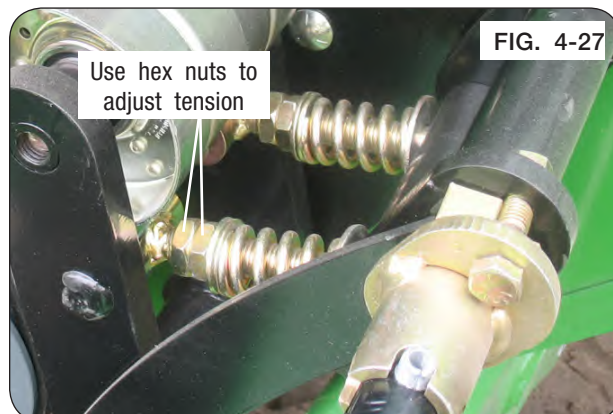

FIG. 4-27
5. Belt tension is adjusted with hex nuts below the spring. All belt tension **MUST** be released from linkage. Loosen outer hex nut and adjust inner nut to establish a $3 \frac{1}{16}$ " pre-load dimension between the heavy washers. Tighten the outer hex nut against inner nut to lock position. (Fig. 4-27)